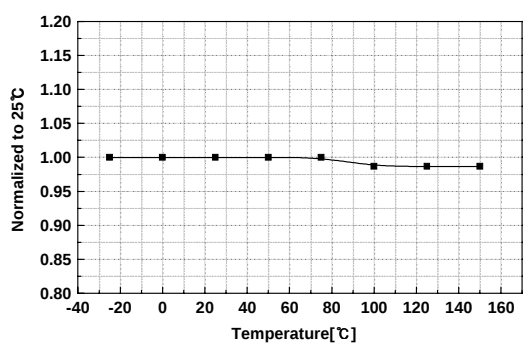

Figure 3. Start Threshold Voltage vs. Temp.
3. Protection function : FS8S0765RCB has 4 self protective functions such as abnormal over current protection (AOCP), over load protection (OLP), over voltage protection (OVP) and thermal shutdown (TSD). Because these protection circuits are fully integrated into the IC without external components, the reliability can be improved without cost increase. In the event of these fault conditions, the FPS enters into auto-restart operation. Once the fault condition occurs, switching operation is terminated and MOSFET remains off, which forces V_{cc} to be reduced. When V_{cc} reaches 9V, the protection is reset and the supply current reduces to 80 μ A. Then, V_{cc} begin to increase with the current provided through the start-up resistor. When V_{cc} reaches 15V, the FPS resumes its normal operation if the fault condition is removed. In this manner, the auto-restart alternately enables and disables the switching of the power MOSFET until the fault condition is eliminated as illustrated in figure 3.